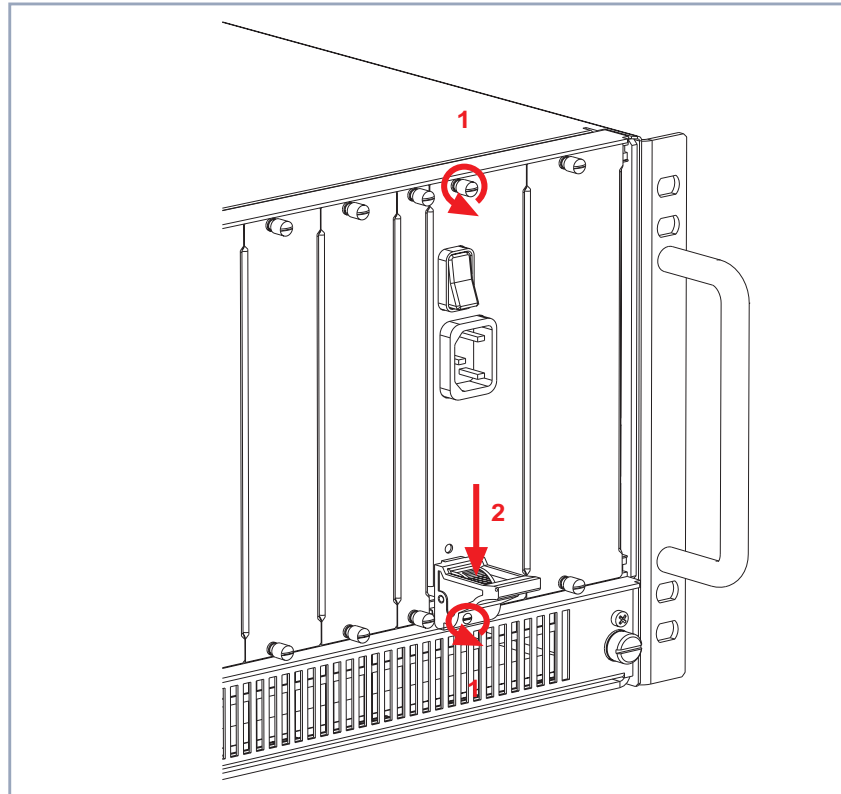

Figure 4-16: Removing the power supply unit
- Loosen the screw of the power supply front panel as shown in figure 4-16, page 58, arrows no. 1.
- Press the switch on the injector/ejector handle down in order to release the connection linked to the cross section of the case front, see figure 4-16, page 58, arrow no. 2.